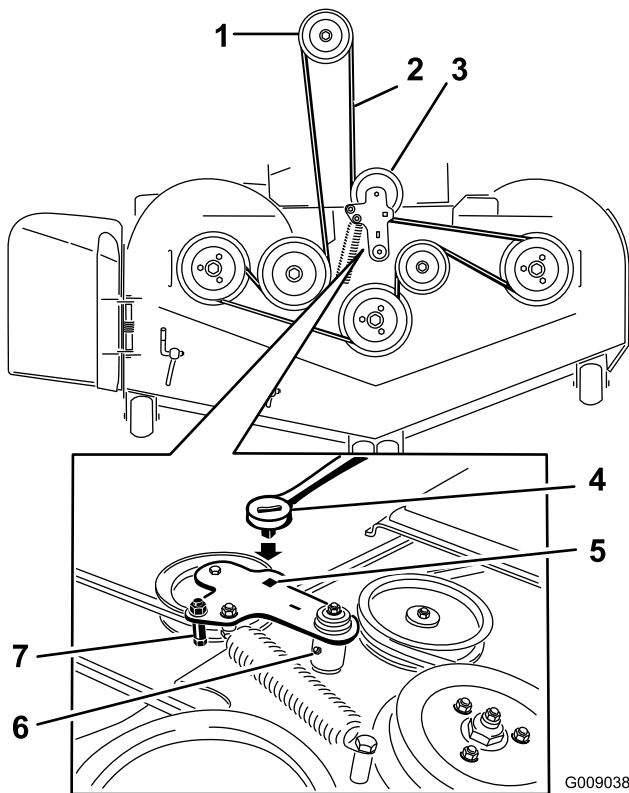

Figure 81
7. Use a ratchet in the square hole in the idler arm to remove tension on the idler spring (Figure 81).
9. Remove the belt guide on the spring loaded idler arm shown in Figure 81.
11. Install the new belt around the mower pulleys and the clutch pulley under the engine (Figure 81).
12. Install the belt guide on the idler arm shown in Figure 81.
13. Using the ratchet in the square hole, install the idler spring (Figure 81).